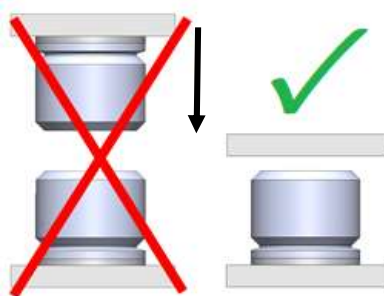

Fig. 3: do not drop buffers against each other
3.3.3 It is not permitted to drive buffers against each other. (fig. 3)